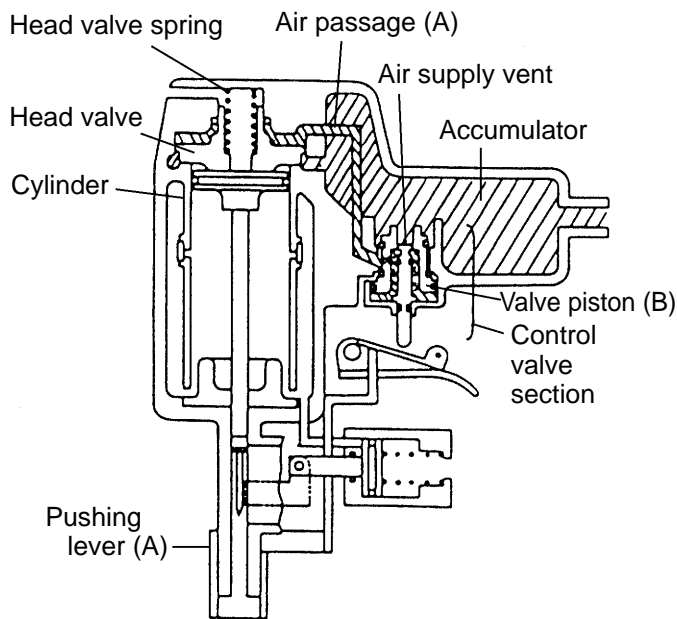

Fig. 8 Prior to nailing
(1) Prior to nailing (see Fig. 8)